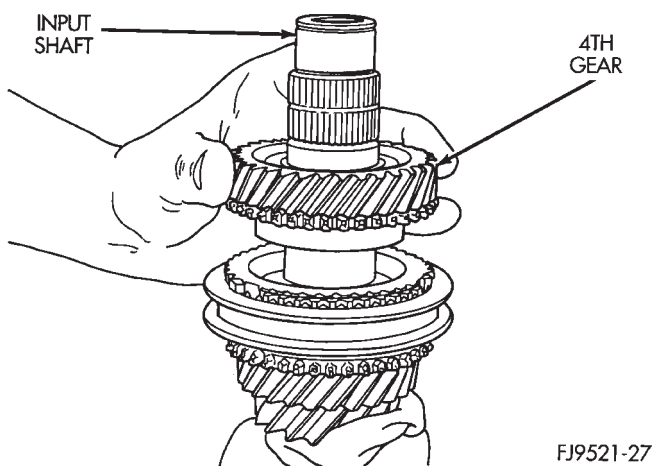

Fig. 94 4th Gear Removal
(7) Remove 4th gear (Fig. 94).